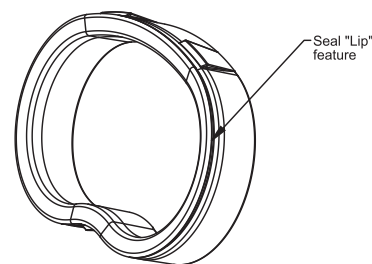

FIGURE 2
11. To reassemble, reseal seals into the seal cavity of the control valve body being sure that the lip of the seal is facing outward. **See Fig. 2.**